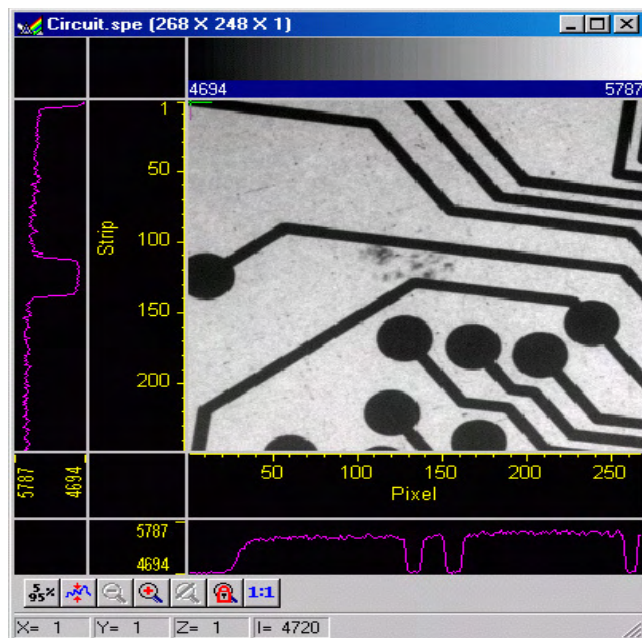

Figure 109. Circuit.spe with Axes and Cross-sections
5. The display should now appear as shown in Figure 109. The axes will be labeled in image pixels and strips with respect to the CCD chip used to acquire the image. The vertical image intensity profile at the cursor position will be displayed to the left and the horizontal image intensity profile at the bottom. The minimum and maximum values for each profile are indicated. Note that you can use the mouse and drag the axes and profile boundaries to change the size of the profile display regions. To change the cursor location, simply click the mouse at the new spot. The cross-sectional graphs will change to reflect the profiles at the new location.